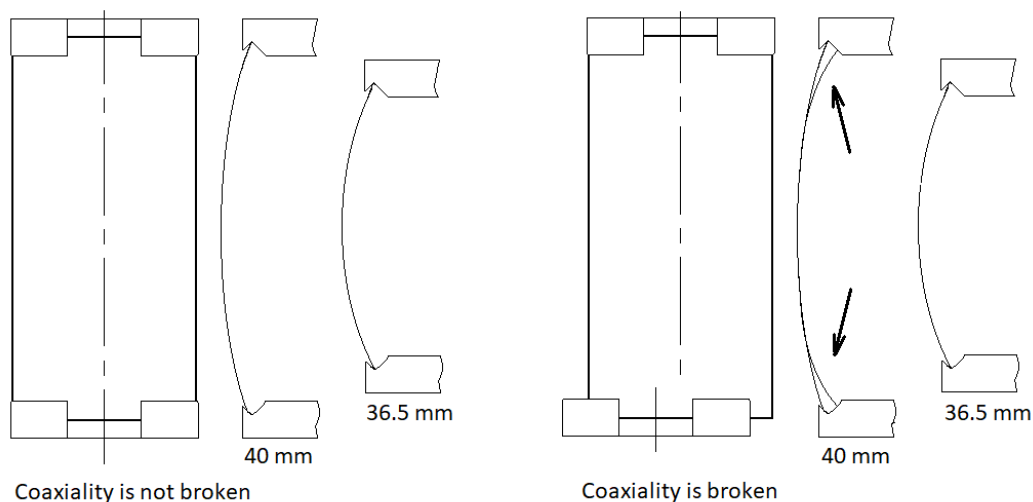

Figure 22 - Checking the alignment of the grippers
- check the coaxially of the clips and their parallelism (see figure 22, 23).
By lifting the bottom clip with your finger from 3 to 4.5 mm, find a viewing point where the curved plate looks like a thin line from the side. The distance from the point of view to the plate should be at least 50 cm. Release the clip and it will return to the 40 mm position. If the curved plate looks like a thin line from the side – then the clip is set correctly. If there is a noticeable «**thickening**» at the top or bottom that exceeds two plate thicknesses (the «**propeller**» effect), then the setting of the clips is broken (see figure 22).